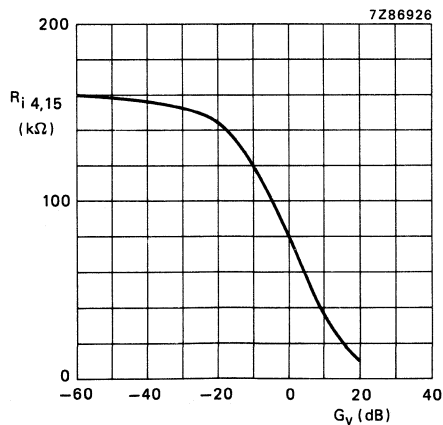

Fig. 4 Input resistance (R_i) as a function of gain of volume control (G_V). Measured in Fig. 1.
- Equation for input resistance (see also Fig. 4)